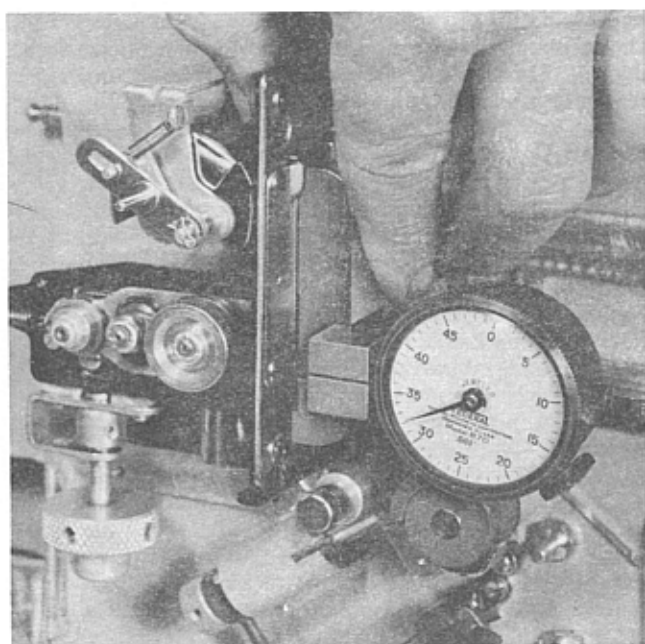

Figure 2-41. Checking Shuttle Tooth Protrusion
d. As indicated in figure 2-41, place gage against aperture plate with gage plunger contacting center shuttle tooth. The gage indicator reading should not be less than 30 nor more than 33 (indicating a protrusion of 0.030 to 0.033-inch).